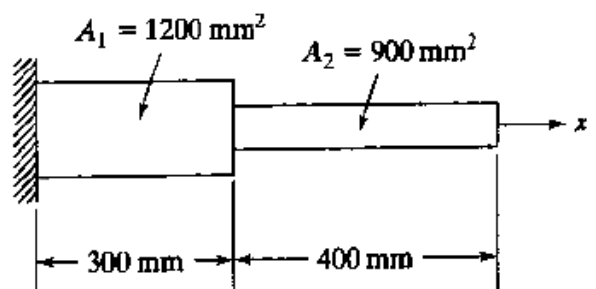

Fig. Q 5C
- 5C. Consider the axial vibration (along the direction x) of the stepped steel bar shown in Fig. Q 5C.